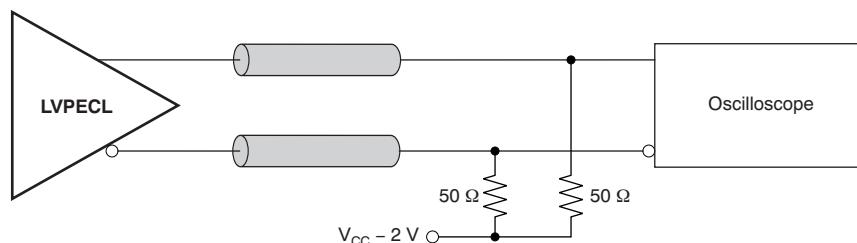

Figure 10. LVPECL Output DC Configuration During Device Test
(1) Figure 10 and Figure 11 show DC and AC test setup.
(2) Internally generated bias voltage (V_{AC_REF}) is for 3.3-V operation only. TI recommends applying externally generated bias voltage for $V_{CC} < 3$ V.